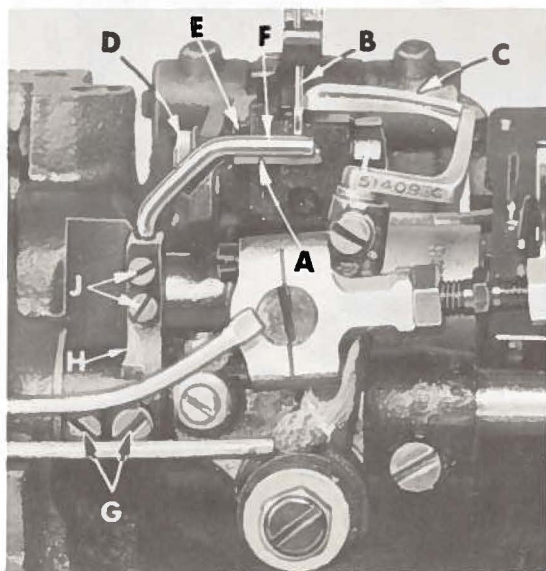

Fig. 11
Set the rear needle guard (A, Fig. 11) horizontally so that it does not quite contact the rear of the needle (B) when at its most forward point of travel. A clearance of .005 inch is permissible. It should be set as low as possible, yet have its vertical face approach within about 3/64 inch of the needle, until the point of the looper (C), moving to the left, is even with the needle. To move needle guard forward or backward, merely loosen screw (D), move needle guard as required and retighten screw (D). To raise or lower the needle guard, loosen screw (D) and turn screw (E) clockwise to lower or counterclockwise to raise. Retighten screw (D) after guard is properly set.
Set the front needle guard (F, Fig. 11) so that it barely contacts the needle (B) until the point of the looper (C), moving to the left, is just past the left side of the needle. The looper may brush, but not pick at the needle. The front needle guard should be set as low as possible to meet this condition yet not contact the rear needle guard or looper at any time. To move needle guard forward or rearward, loosen screws (G), rotate needle guard holder (H) as required and retighten screws (G). To raise, lower or rotate needle guard, loosen screws (J), reposition as necessary and retighten screws after guard is properly set.